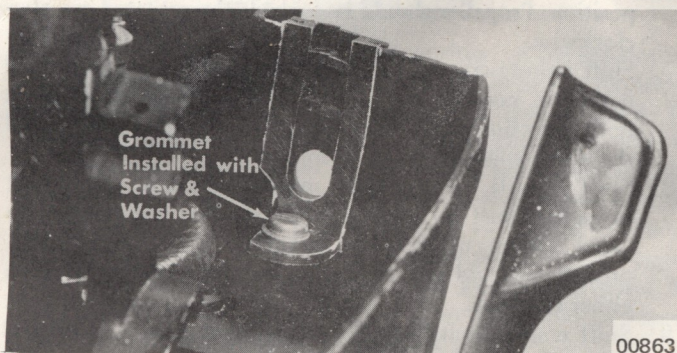

Figure 3. Grommet Installed
5. Place rubber grommet into slot, created in Step 2, and secure with self-tapping screw and washer. (Figure 3)